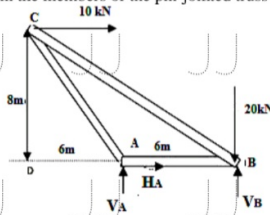

Figure: 1
1. Determine the forces in the members of the pin-jointed truss shown in figure 1. [15]